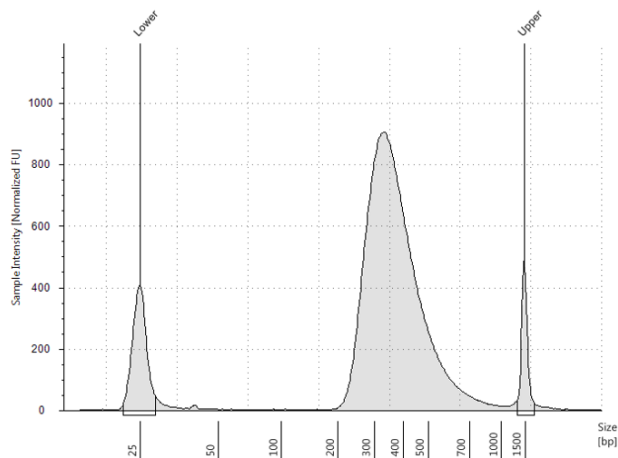
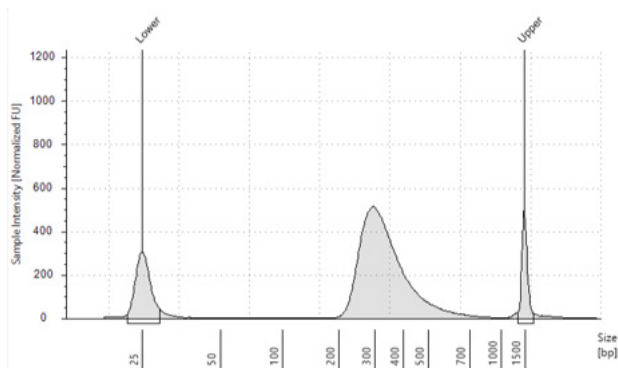
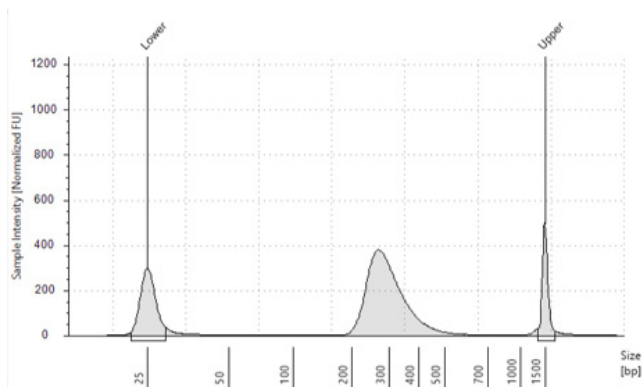

Figure 17 Post-capture library prepared from a high-quality gDNA sample analyzed using a High Sensitivity D1000 ScreenTape assay.
Figure 18 Post-capture library prepared from a typical FFPE gDNA sample analyzed using a High Sensitivity D1000 ScreenTape assay.
Figure 19 Post-capture library prepared from a low-quality FFPE gDNA sample analyzed using a High Sensitivity D1000 ScreenTape assay.
- 16 Verify that the electropherogram shows the expected DNA fragment size peak position (see Table 95 for guidelines). Sample electropherograms are shown in Figure 17 (library prepared from high-quality DNA), Figure 18 (library prepared from medium-quality FFPE DNA), and Figure 19 (library prepared from low-quality FFPE DNA).
Using manual preparation of the analytical samples, you can analyze the DNA samples on Agilent 2100 BioAnalyzer, Agilent 5200 Fragment Analyzer, or Agilent 4200/4150 TapeStation. Electropherograms obtained using one of these other analysis platforms are expected to show fragment size profiles similar to those shown for the Agilent 4200 TapeStation (see Figure 17 through Figure 19). Verify that the electropherogram shows the expected DNA fragment size peak position (see Table 95 for guidelines). Table 96 includes links to assay instructions.